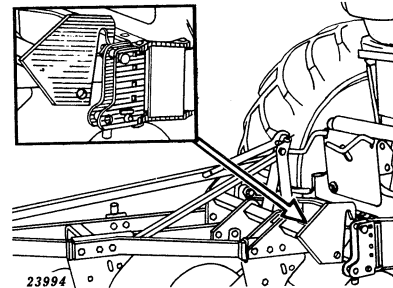

Figure 10—Lining Up Couplers
2. Raise carrier and back up to plow, lining up carrier coupler fittings with plow coupler hooks (Figure 10). Lower carrier when front coulters shank is cleared.